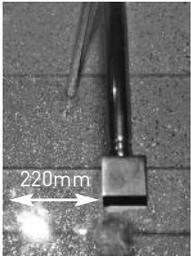
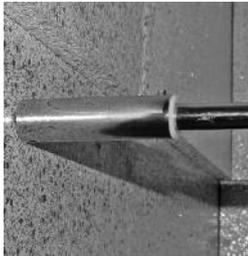

Figure a11
Figure a11i
Figure a11ii
11. Using the full Bracing Bar assembly (M) position over the top of the glass of the Fixed Panel (B) (**Figure a11**). Ensure the Brace Bar is completely level and in line with the glass clamp that is over the top of the Fixed Panel (**Figure a11i**). Using a Pencil, mark on the wall the position where the bracket which is already fitted at the end of the Brace Bar touches the wall (**Figure a11ii**).